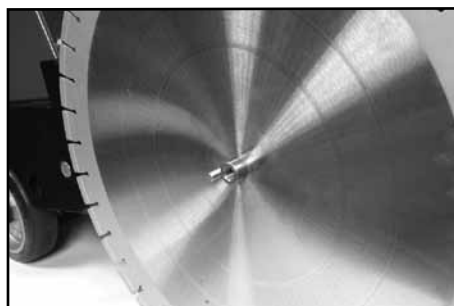

**Fig. 7 Remove Arbor Bolt**
2. Remove arbor bolt. If blade is mounted on right side saw, the bolt has left hand threads. To remove turn clockwise. If the blade is mounted on left side of saw, nut has right hand threads. To remove, turn counter-clockwise (Figure 7).